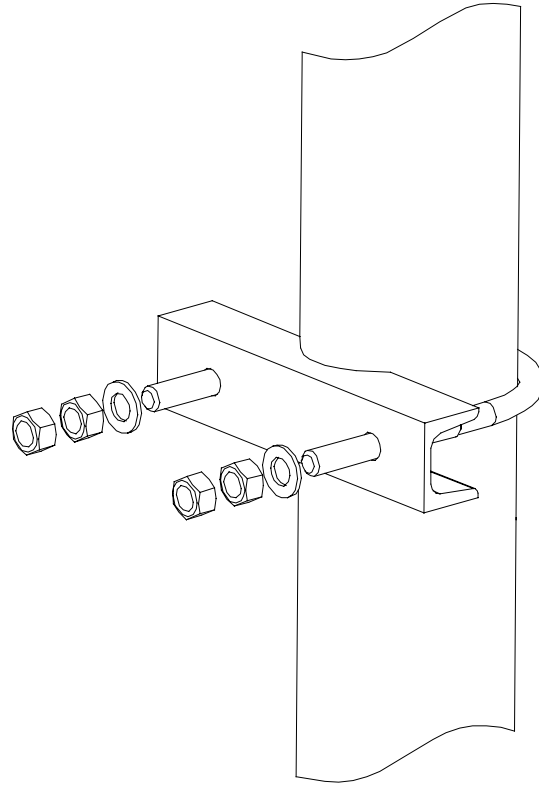

Figure 5 – Anti Slide Bracket
Step 3: Install anti-slide corner bracket below the intended location of the mounting bracket as shown in Figure 5. The anti slide bracket prevents the mounting bracket from sliding down the pole during installation.